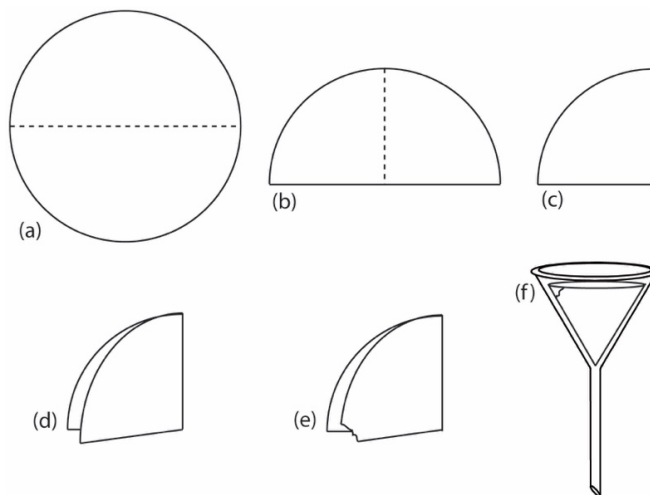

Figure 1
4. Obtain a circular filter paper and fold it as shown in Figure 1 (a) thru (e), open it into a conical shape, and place it into a conical funnel (f).